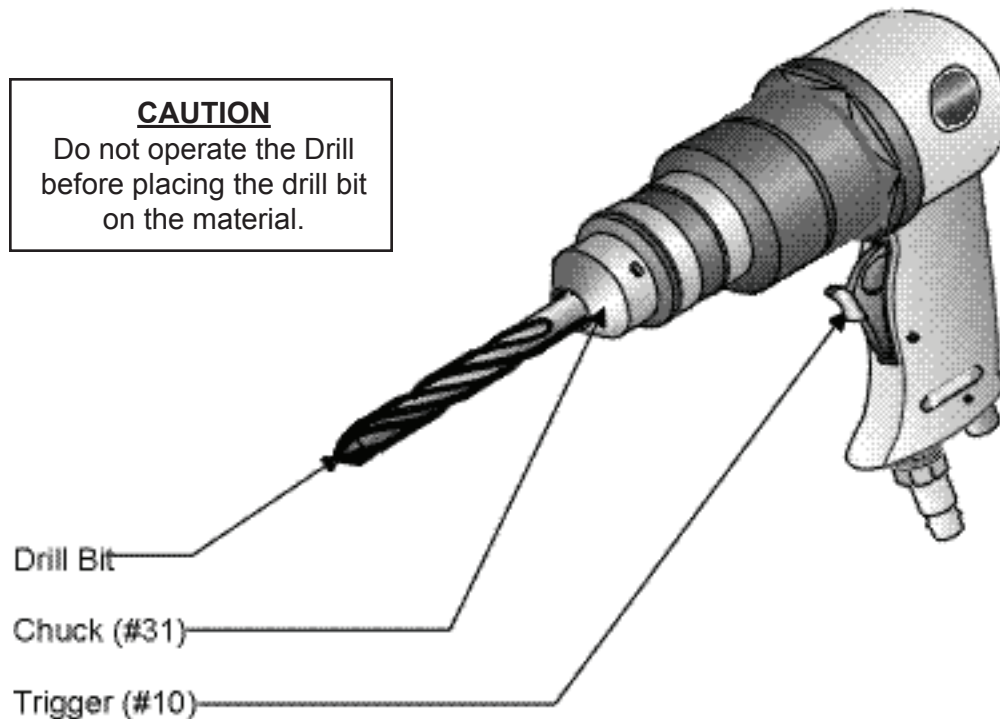

Figure 5 — Drilling Operations
- Step 7: To begin drilling, press the TRIGGER (10) as shown in Figure 5.